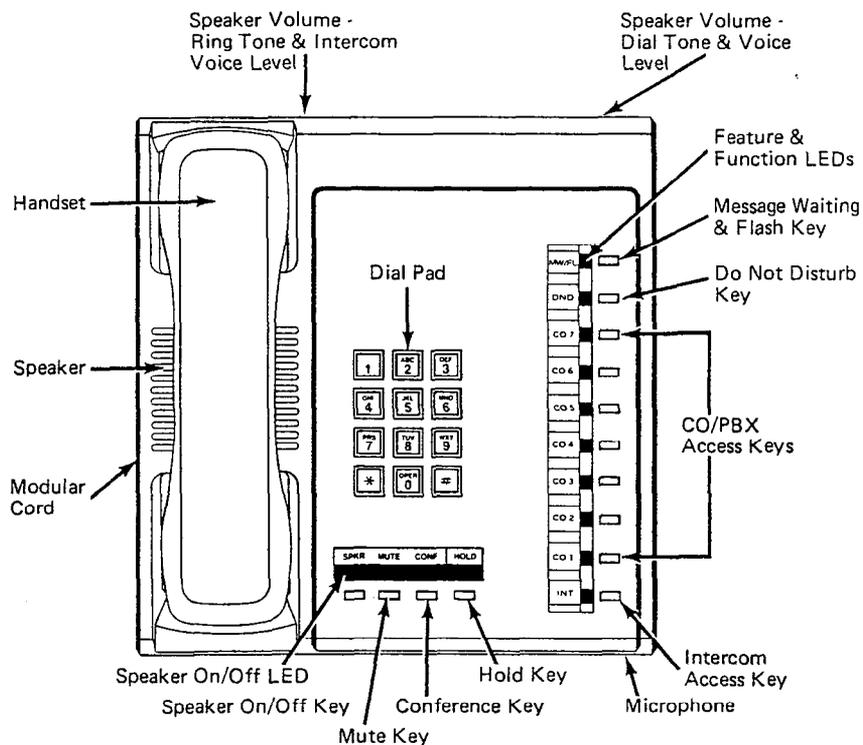

FIGURE 6—10-key EKT
02.13 Software assignment permits the 10-key EKT (Figure 6), having the same dimensions as the 20-key EKT, to be alternately assigned to any station (with the exception of station #17). This 10-key EKT has full access to seven CO/PBX lines and can receive transferred calls on the other lines.